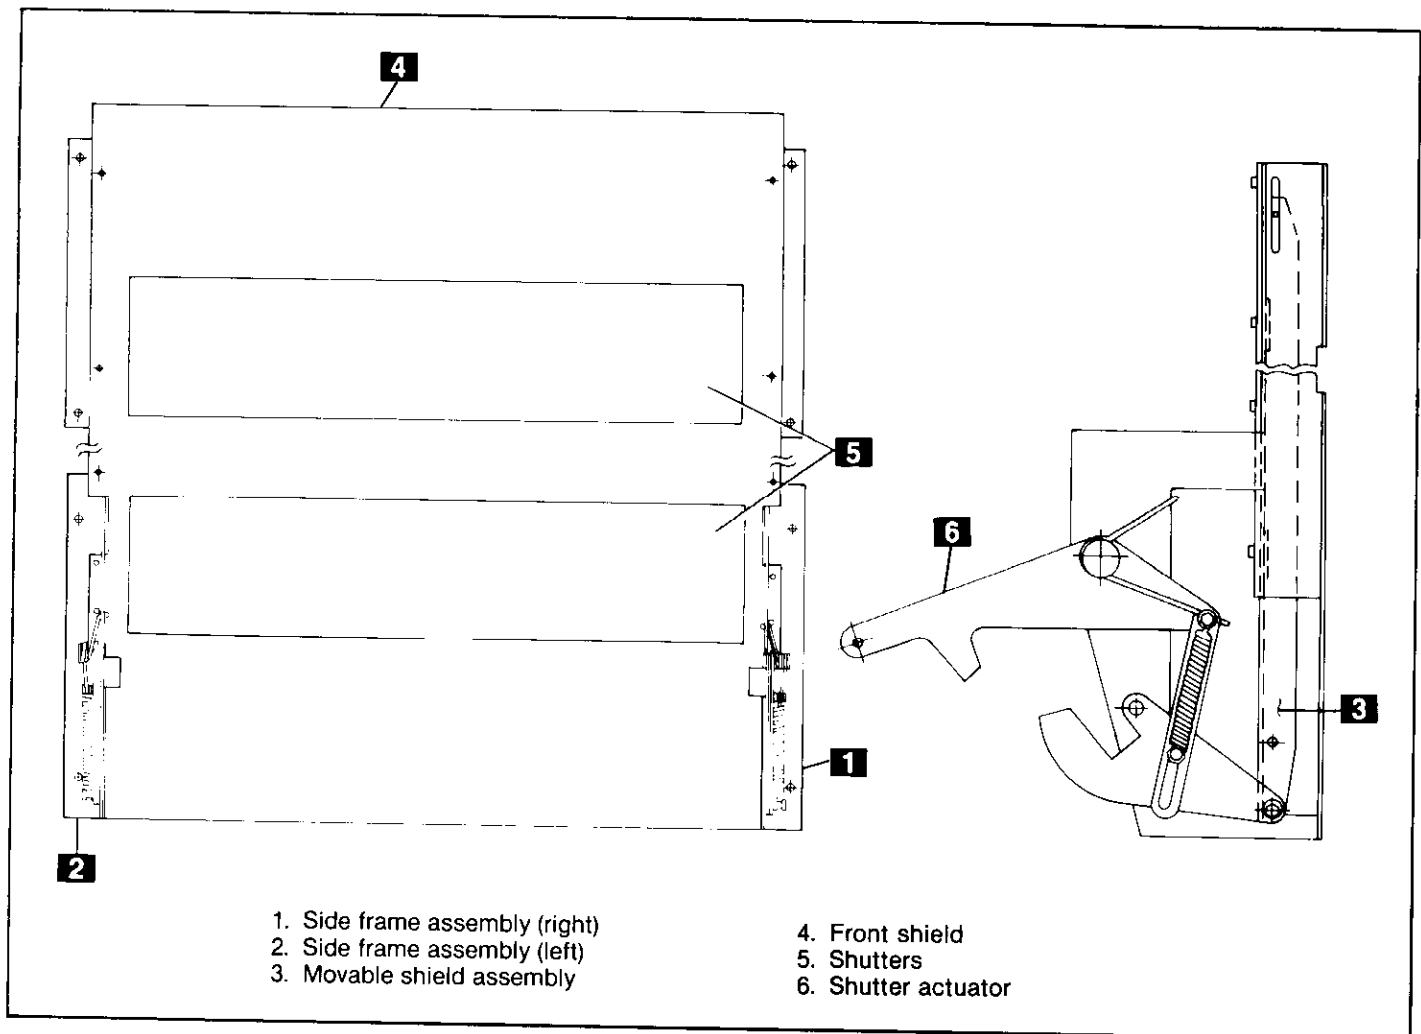

Fig. 7-9. AKD-8 circuit breaker shutter unit (AKR-75/100 breakers)
2. Take out four 1/4-inch hex head screws on each side of the frame. A socket wrench with a 7/16-inch driving head with 8-inch extension will be needed. See Fig. 7-9.